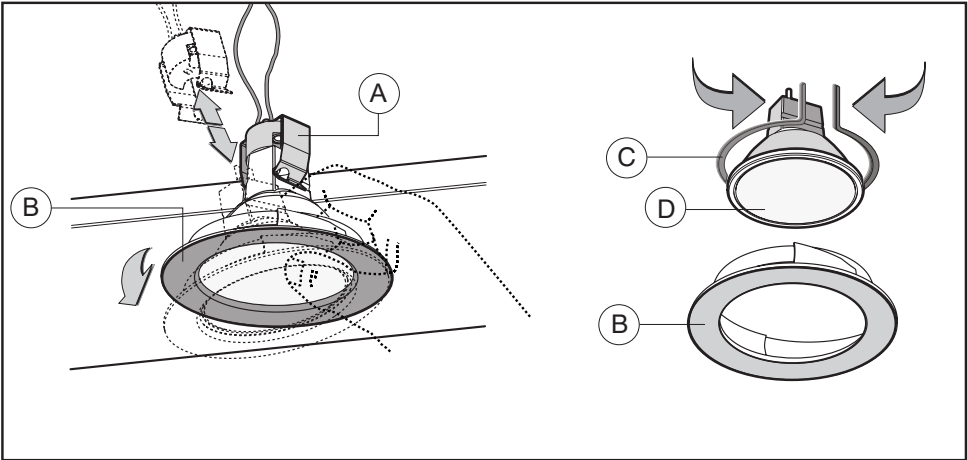

Fig.11
- Remove the light bulb from its holder, using a lever motion at the front as indicated in Fig. 11.